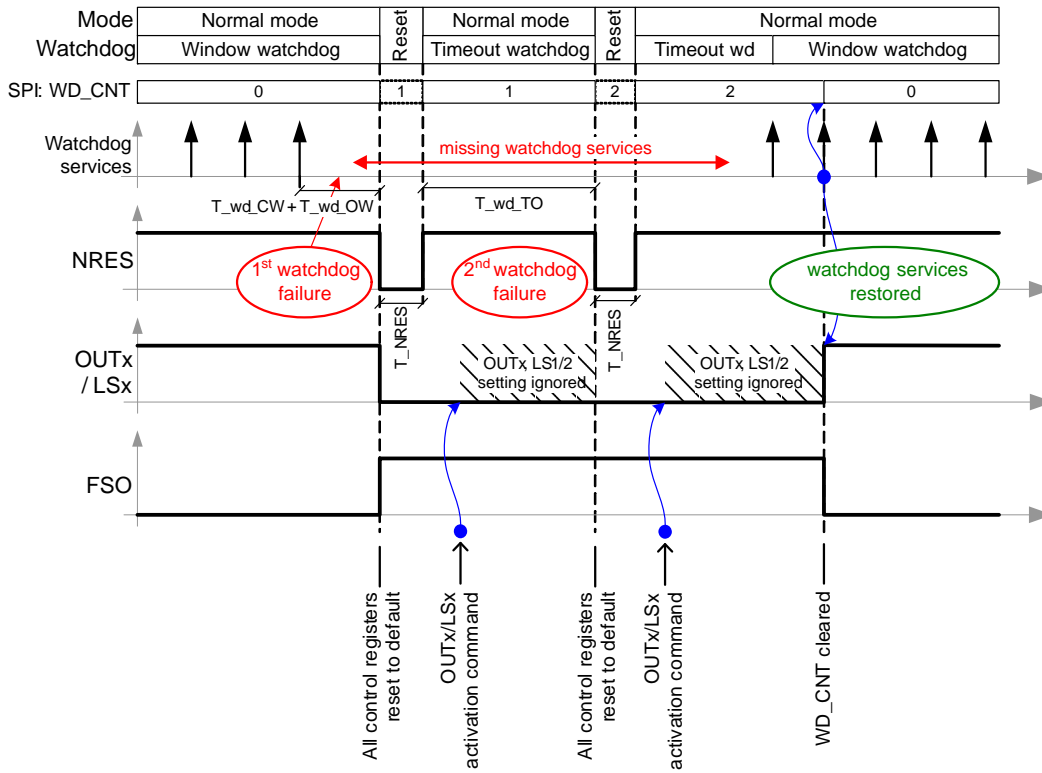
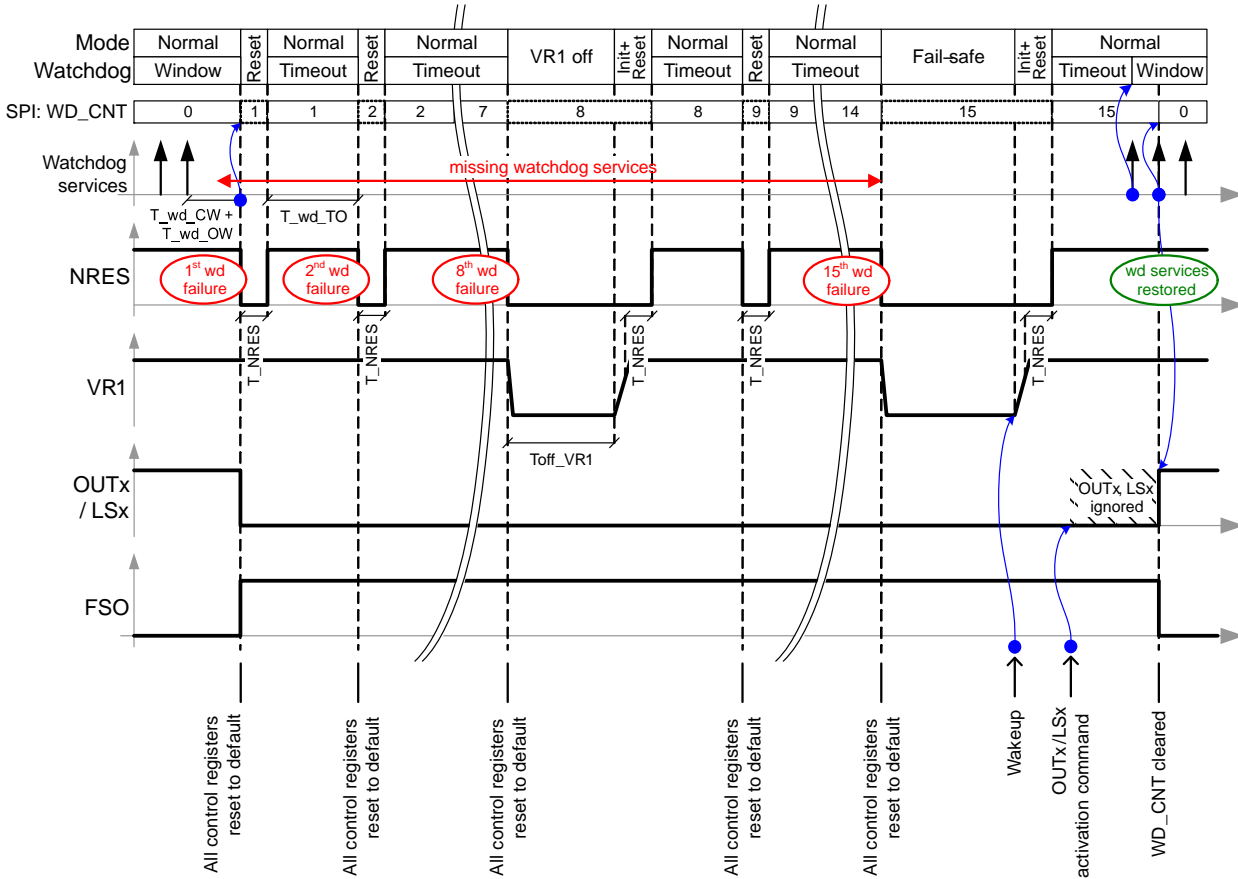

Figure 17. Watchdog Failure – Isolated Events
Figure 18. Watchdog Failure – Multiple Events
- **Failure**: If the watchdog is not triggered correctly (trigger not sent during timeout or open window; or sent during the closed window), reset is generated on pin NRES and the “WD\_TRIG” bit is reset to “0”. After the NRES release, the watchdog always starts in the timeout mode. Watchdog failures are counted and their number can be read from the SPI status registers (bits “WD\_CNT[3:0]”). After eight watchdog failures in sequence, the VR1 regulator is switched off for 200 ms. In case of seven more watchdog failures, VR1 is completely turned off and the device goes into Fail-safe mode until a wake-up occurs (e.g. via the LIN bus). Second successful watchdog trigger (first in window mode) resets the failure counter. Watchdog failure handling is shown in Figure 17 and Figure 18.